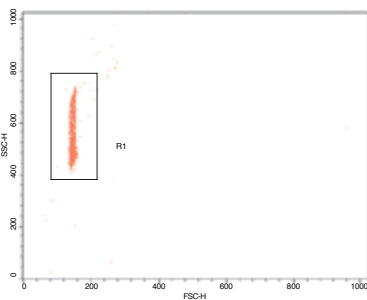

Figure 4
1. Gate on the single population(s) on a Forward Scatter vs. Side Scatter plot. (Figure 4)